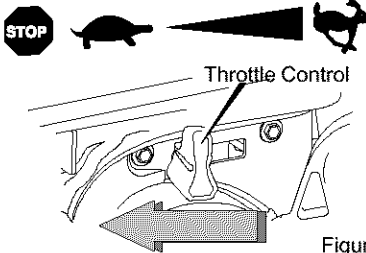

Figure 20
1. To stop the engine, move the throttle control lever to the "SLOW" position, then move to the "STOP" position (see Figure 20).